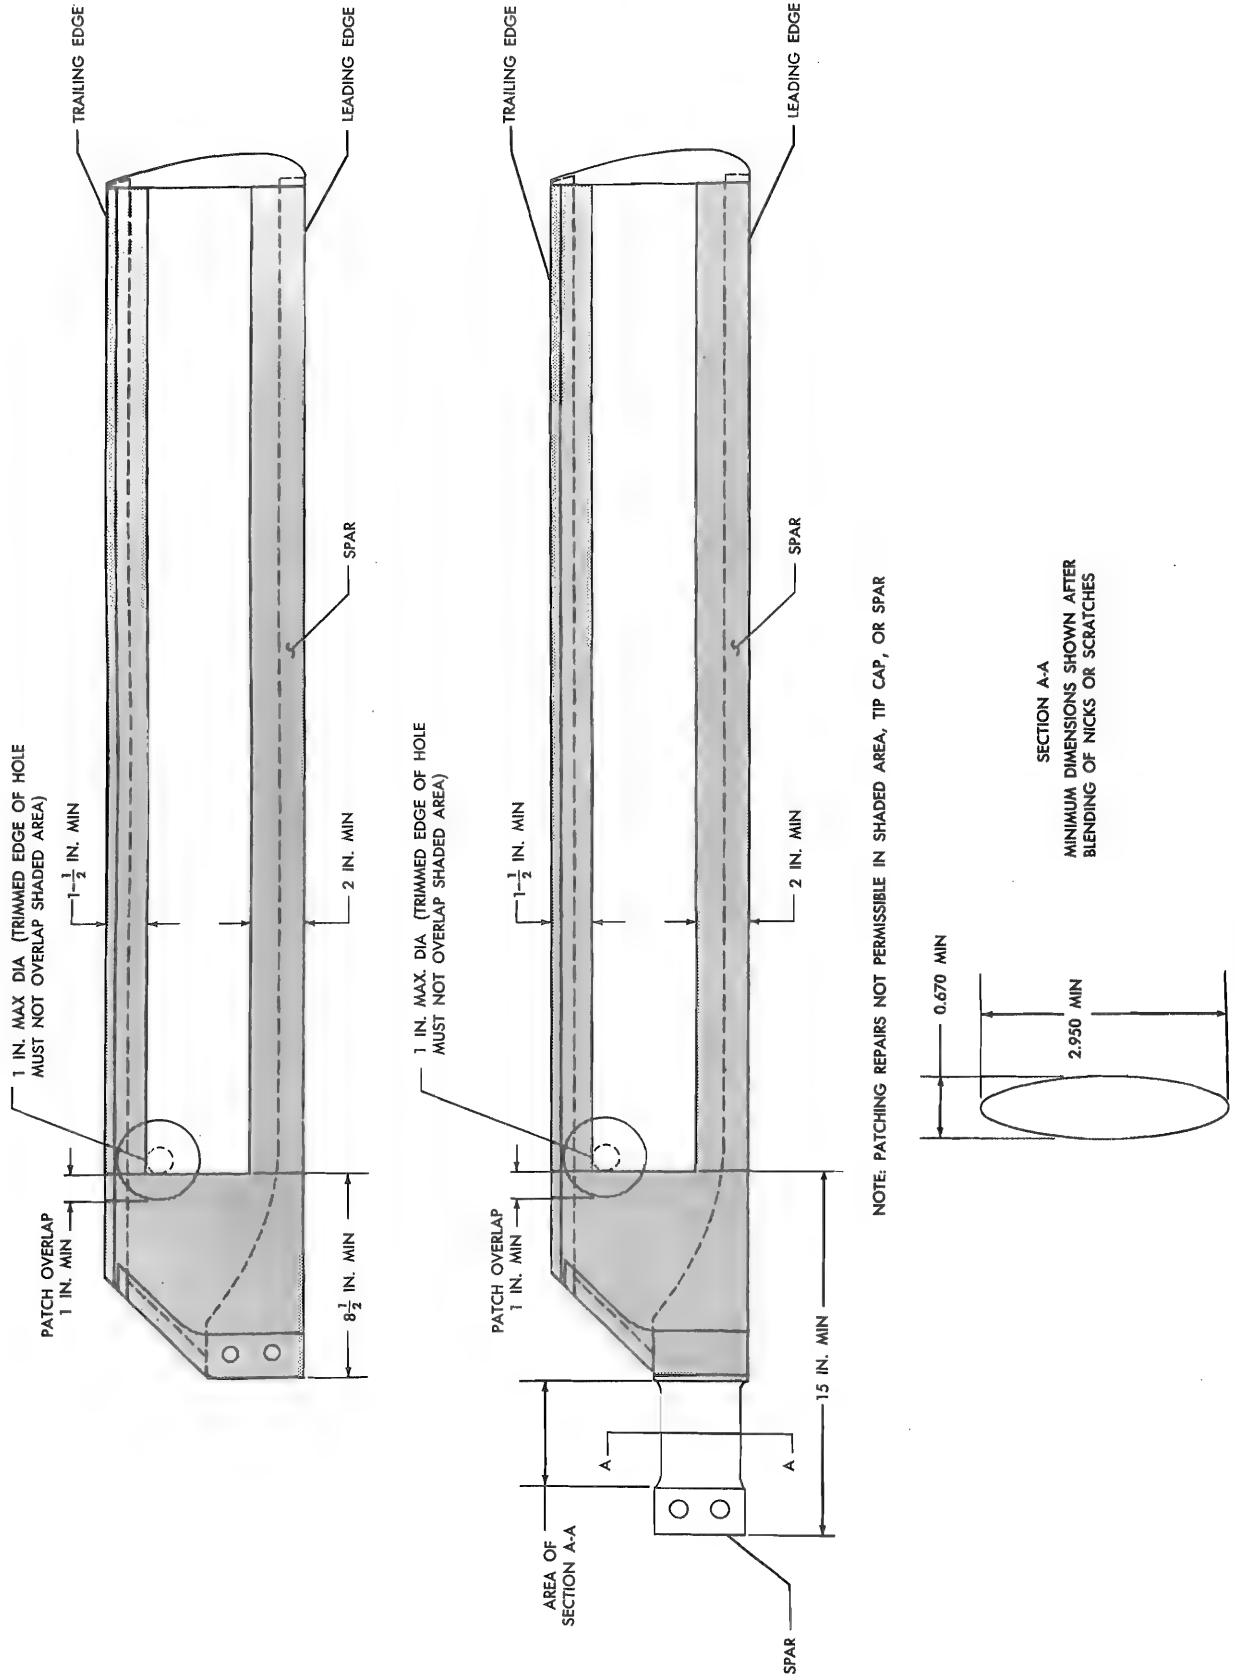

Figure 3-2. Patching Limitations to Tail Rotor Blade
a. Nicks or scratches to that area of the spar shown as Section A-A (figure 3-2) must be filed smooth to blend with the surrounding area, and the rework must be kept to the dimensions shown in figure 3-2. The diameter of the blend area must be no less than 10 times the depth of the repair.
3-10. DAMAGE REPAIRABLE BY PATCHING. (See figure 3-2.)
f. A hole, crack, or sharp dent in the shaded area of either blade assembly (figure 3-2), which shows signs of cracking, necessitates replacement of blade.